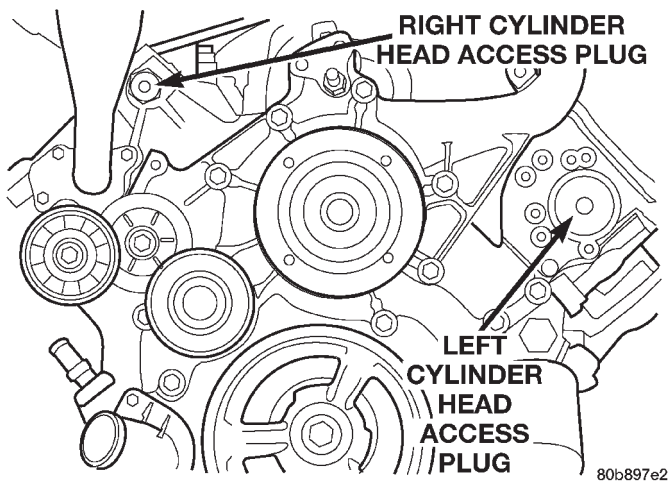

Fig. 49 Cylinder Head Access Plugs
- (15) Remove the right side secondary chain tensioner. Refer to Timing Chain and Sprockets in this section.
- (16) Remove the cylinder head access plug (Fig. 49).